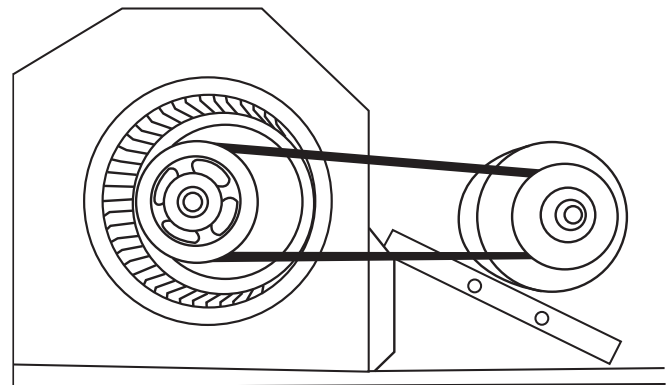

Fig. 5 — Belt Drive Motor Mounting
The supply fan system consists of a forward-curved centrifugal blower wheel on a solid shaft with two concentric type bearings, one on each side of the blower housing. A fixed-pitch driven pulley is attached to the fan shaft and an adjustable-pitch driver pulley is on the motor. The pulleys are connected using a "V" type belt. (See Fig. 5.)
2. Loosen belt by loosening fan motor mounting nuts. (See Fig. 5.)